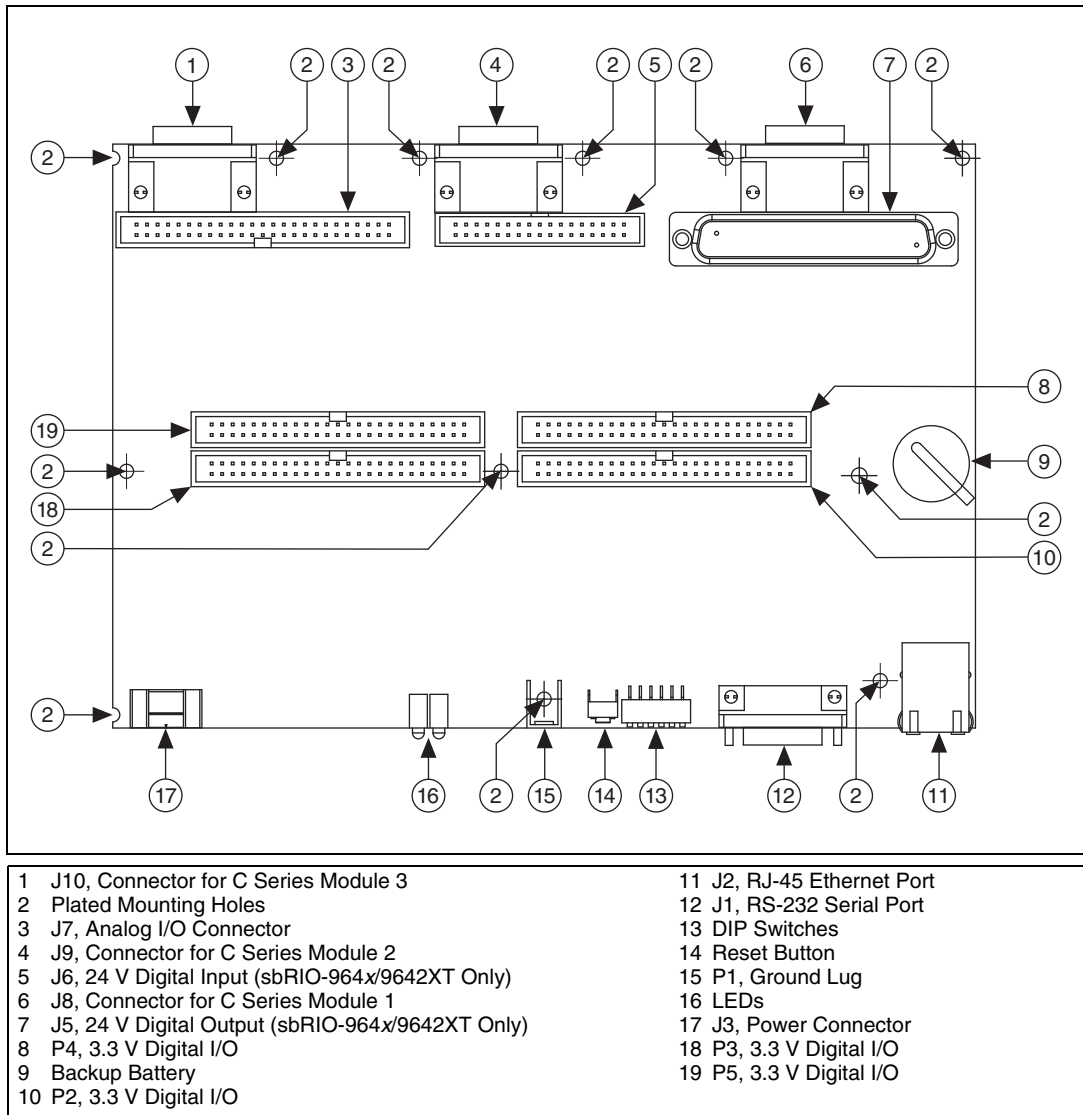

Figure 4. NI sbRIO Device Parts Locator Diagram
Figure 4 shows the locations of parts on the NI sbRIO device.
1. Remove the MINI-COMBICON plug from connector J3 of the NI sbRIO device. Refer to Figure 4 for the location of J3.